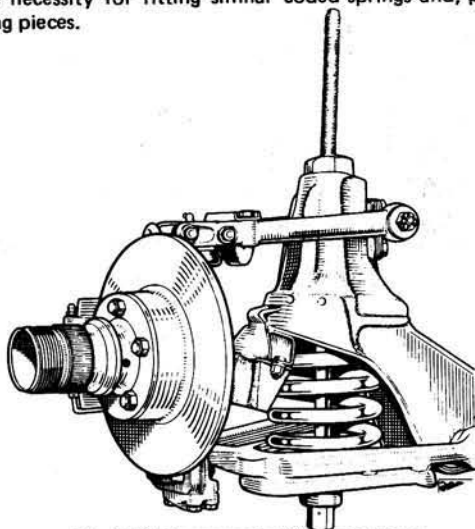

Fig.11.9. Compressing the coil spring
- 3 Insert a suitable, and serviceable, coil spring compressor through the centre of the spring and compress the spring to relieve the load on the seat pan screws (Fig.11.9).